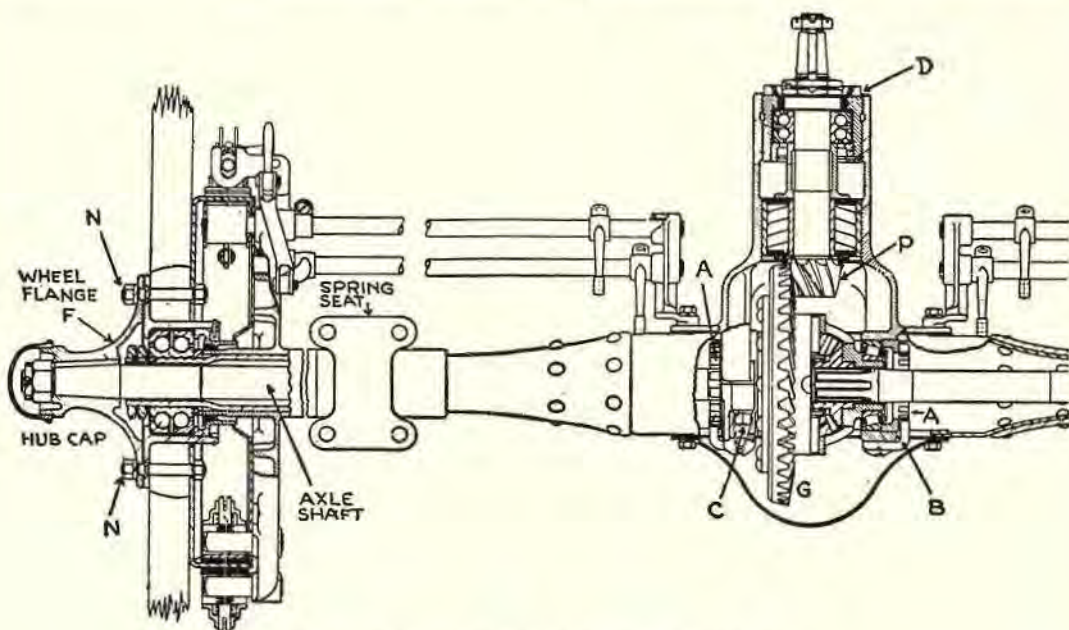

Fig. 18. Salisbury rear axle; three-quarter floating type.
To remove the axle shafts: This can be accomplished without the use of the jack, as the full weight of the car can still be left on the wheels, or with the axle shafts removed, since there is no possibility for the wheels to come off. Remove the wheel-drive flange (F) (Fig. 18) by unscrewing nuts (N). The flange with the axle shaft can then be pulled out.
In order that the spiral bevel ring gear (G) (Fig. 18) and drive pinion (P) may operate correctly, they must be in perfect alignment, that is, the differential axis must be in the same plane as the pinion axis; at the same time there must be a correct amount of back lash between the pinion and the gear. To that end two means of adjustment are provided.
The differential on which the ring gear (G) (Fig. 18) is mounted may be moved toward either side, as required, by turning one of the adjusting nuts (A) to the left, and turning the other to the right an